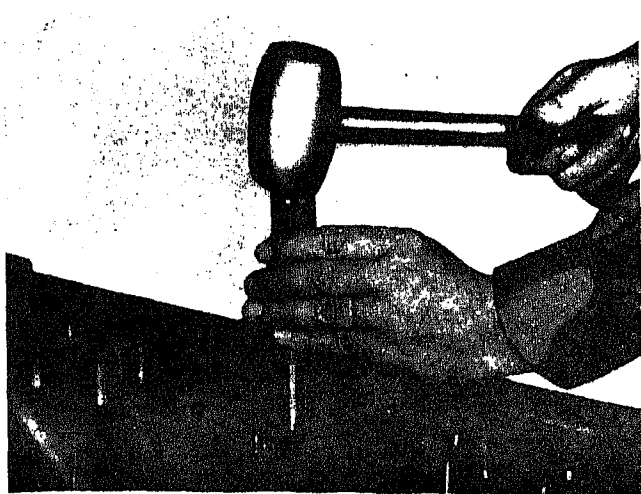

Fig. 2-5-6. Installing valve guide
2. Install new guides with arbor press and proper mandrel. Fig. 2-5-6. Refer to Table 2-5-3 for proper mandrel.